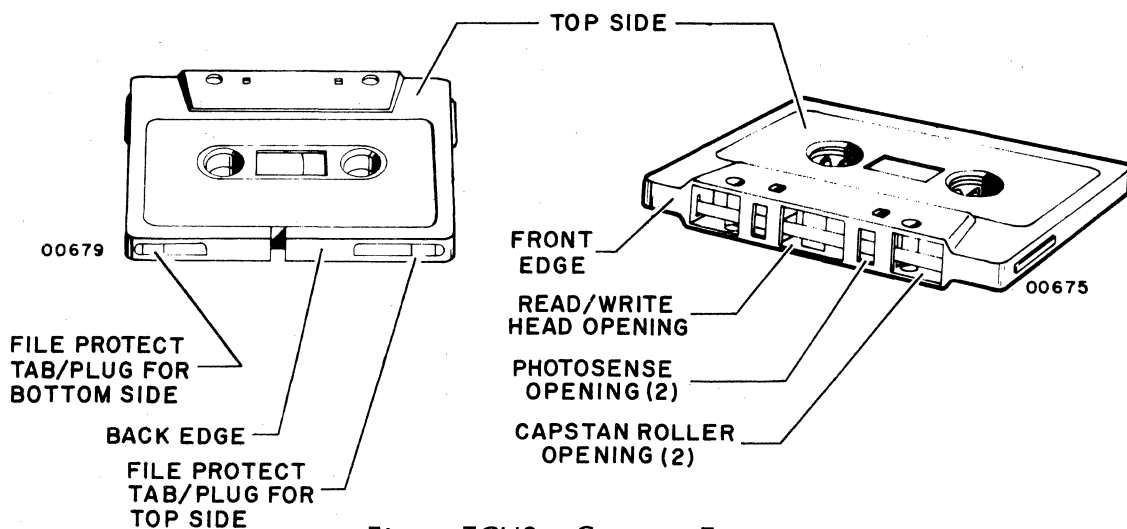

Figure TCU2. Cassette Features
- 3) Lift cover over tape drive (do not force cover back beyond the vertical), hold cassette by its side edges with side desired to record/read on/from facing up, slide cassette back edge first into cassette chamber in tape drive with front edge facing you (figure TCU2), and press cassette back/down in chamber until it seats firmly over alignment posts and reel drive hubs.